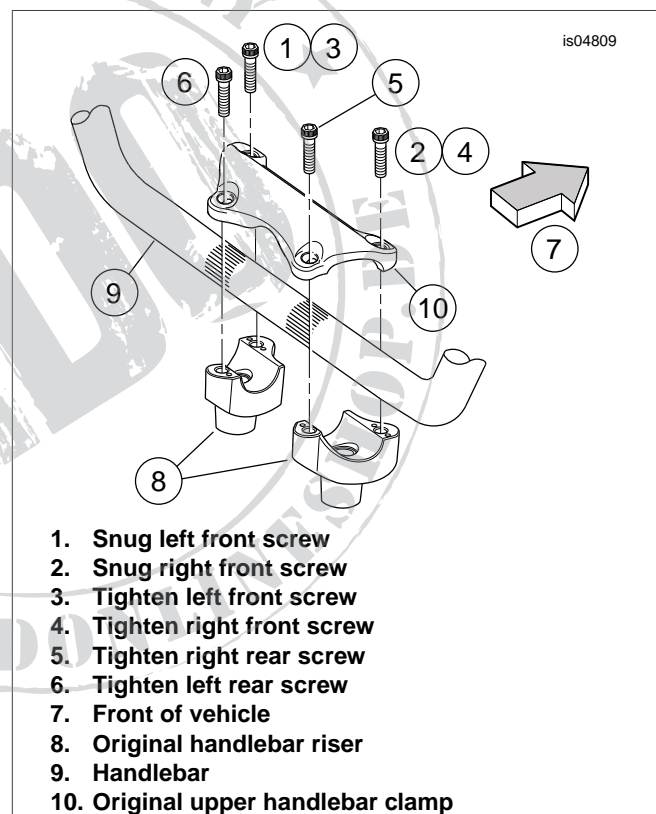

Figure 4. Handlebar Clamp Screw Tightening Sequence
3. See Figure 4. Snug, but do not fully tighten, **only** the front two upper clamp screws in the following sequence:
- a. First, snug the left front screw (1).
- b. Then, snug the right front screw (2).
11. See Figure 4. Tighten the upper handlebar-clamp screws as follows:
- a. Tighten the left-side front screw (1) until the left side of the handlebar clamp makes contact with the front of the left-side handlebar riser.
- b. Tighten the right-side front screw (2) until the right side of the handlebar clamp makes contact with the front of the right-side handlebar riser.
- c. Tighten the left-side front screw (3) to 16-20 ft-lbs (21.7-27.1 Nm).
- d. Tighten the right-side front screw (4) to 16-20 ft-lbs (21.7-27.1 Nm).
- e. Tighten the right-side rear screw (5) to 16-20 ft-lbs (21.7-27.1 Nm).
- f. Tighten the left-side rear screw (6) to 16-20 ft-lbs (21.7-27.1 Nm).